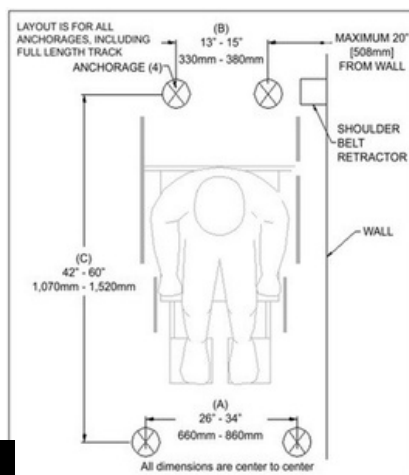

Figure 3
Here are the optimal installation practices and recommended distances (center-to-center) between floor anchorages, as illustrated in Figure 3:
- Determine the location of anchorages per Figures 3 & 4. L-Track can be installed perpendicular or parallel to wheelchair location; it includes a full-length track.